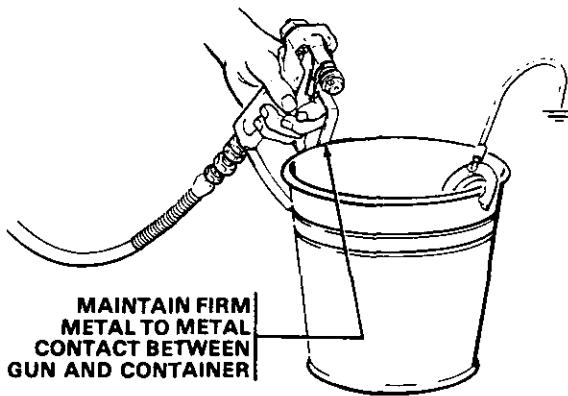

Fig 5
- f. Hold a metal part of the gun firmly against and aimed into a metal waste container. See Fig 5. Squeeze the trigger and hold it open, turn the ON/OFF switch to ON, and slowly increase the pressure setting until the sprayer starts. This procedure reduces the risk of static electric discharge and splashing. Keep the gun triggered until all air is forced out of the system and the paint flows freely from the gun. Release the trigger and engage the safety.